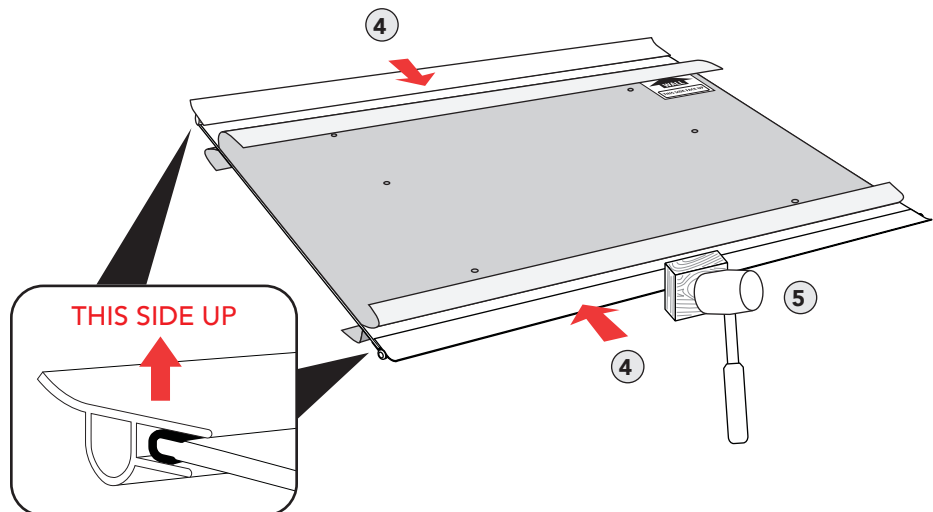

Fig 11
① Carefully peel the protective film approximately 2 inches from both the top and bottom on front and back edges of the sheet.
② Dry fit the gaskets to polycarbonate or (OPTIONAL) apply a small bead of Weather Stripping Adhesive (W.S.A.) to the gasket inner side before connecting. Ensure to follow W.S.A. instructions & have a rag to wipe off any excess.
③ Ensure the Rubber Strip Gaskets are smoothly connected to the sheet and with scissors trim off the excess Rubber Strip Gasket.
④ Join the Awning Front/Back Bars to sheet by pressing onto the Rubber Strip Gasket edges. Ensure the Awning Front/Back Bar are correctly oriented as illustrated in fig. 11, labeled THIS SIDE UP.